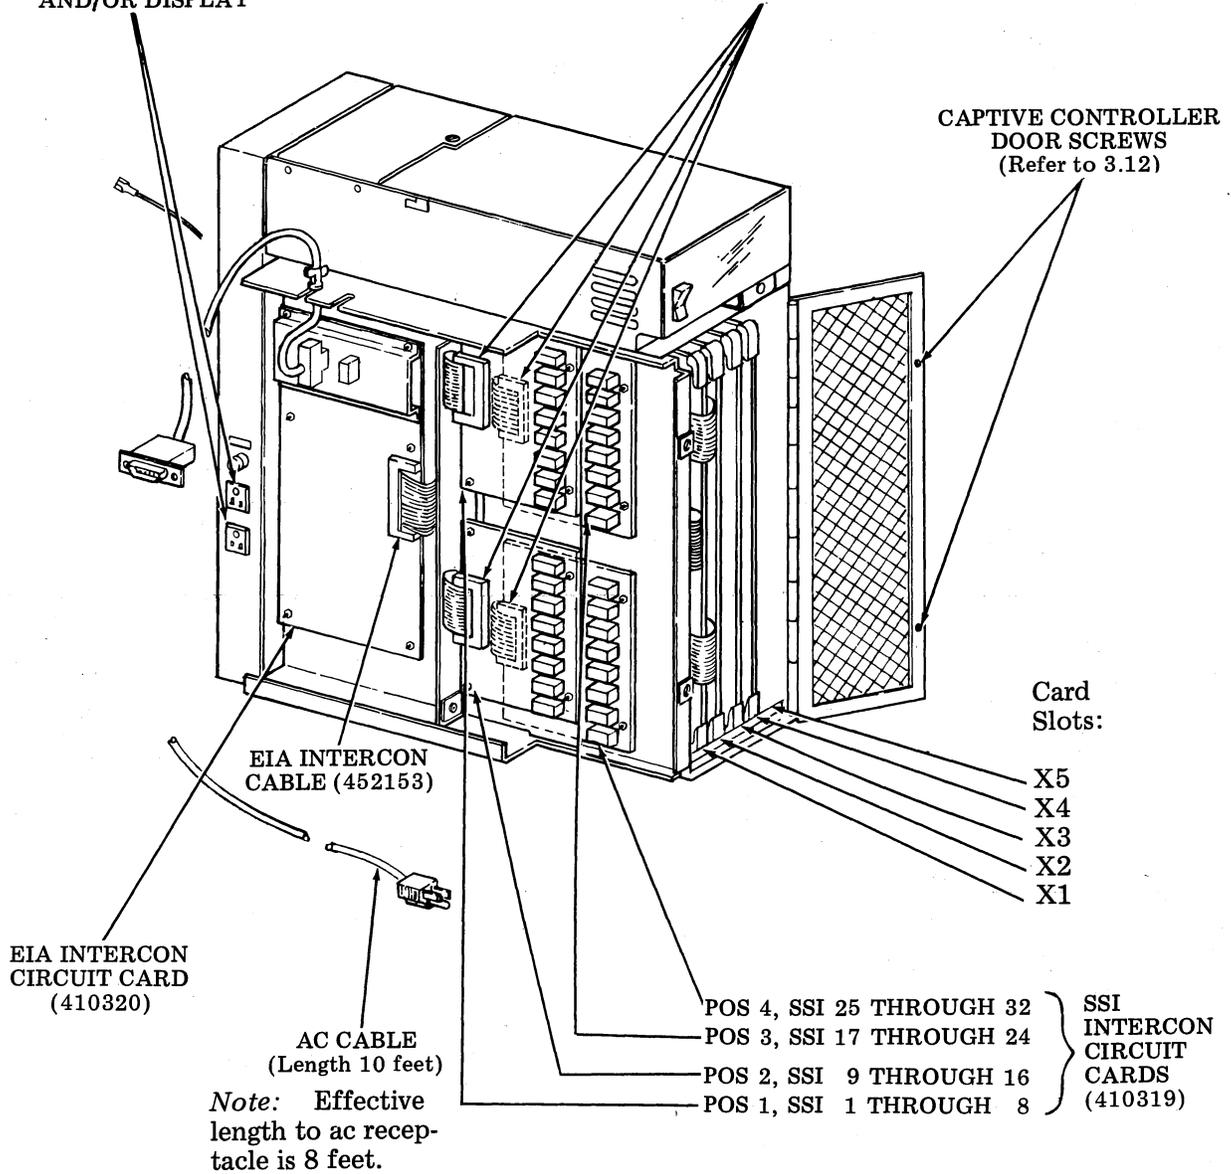

Fig. 15
2.02 Fig. 15 shows a 45C340 Controller with the left side cover removed; not all ribbon cables are shown. Fig. 16 shows the circuit card positions for the basic controller arrangements.
- ⑤ Refer to Fig. 15. Turn the two captive controller door screws 1/4 turn counterclockwise, then open the door. Check that a 45F110-type card is present in card position 3 (or 4 as applies). If card is not present, insert card. Check seating of all cards inside controller door.